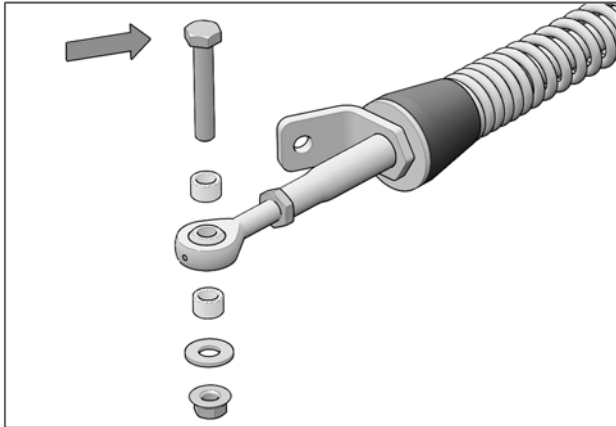

Fig. 8
3. Remove bolts, nuts, washers and bushings from front stabilizing rod ends as shown in Fig. 8